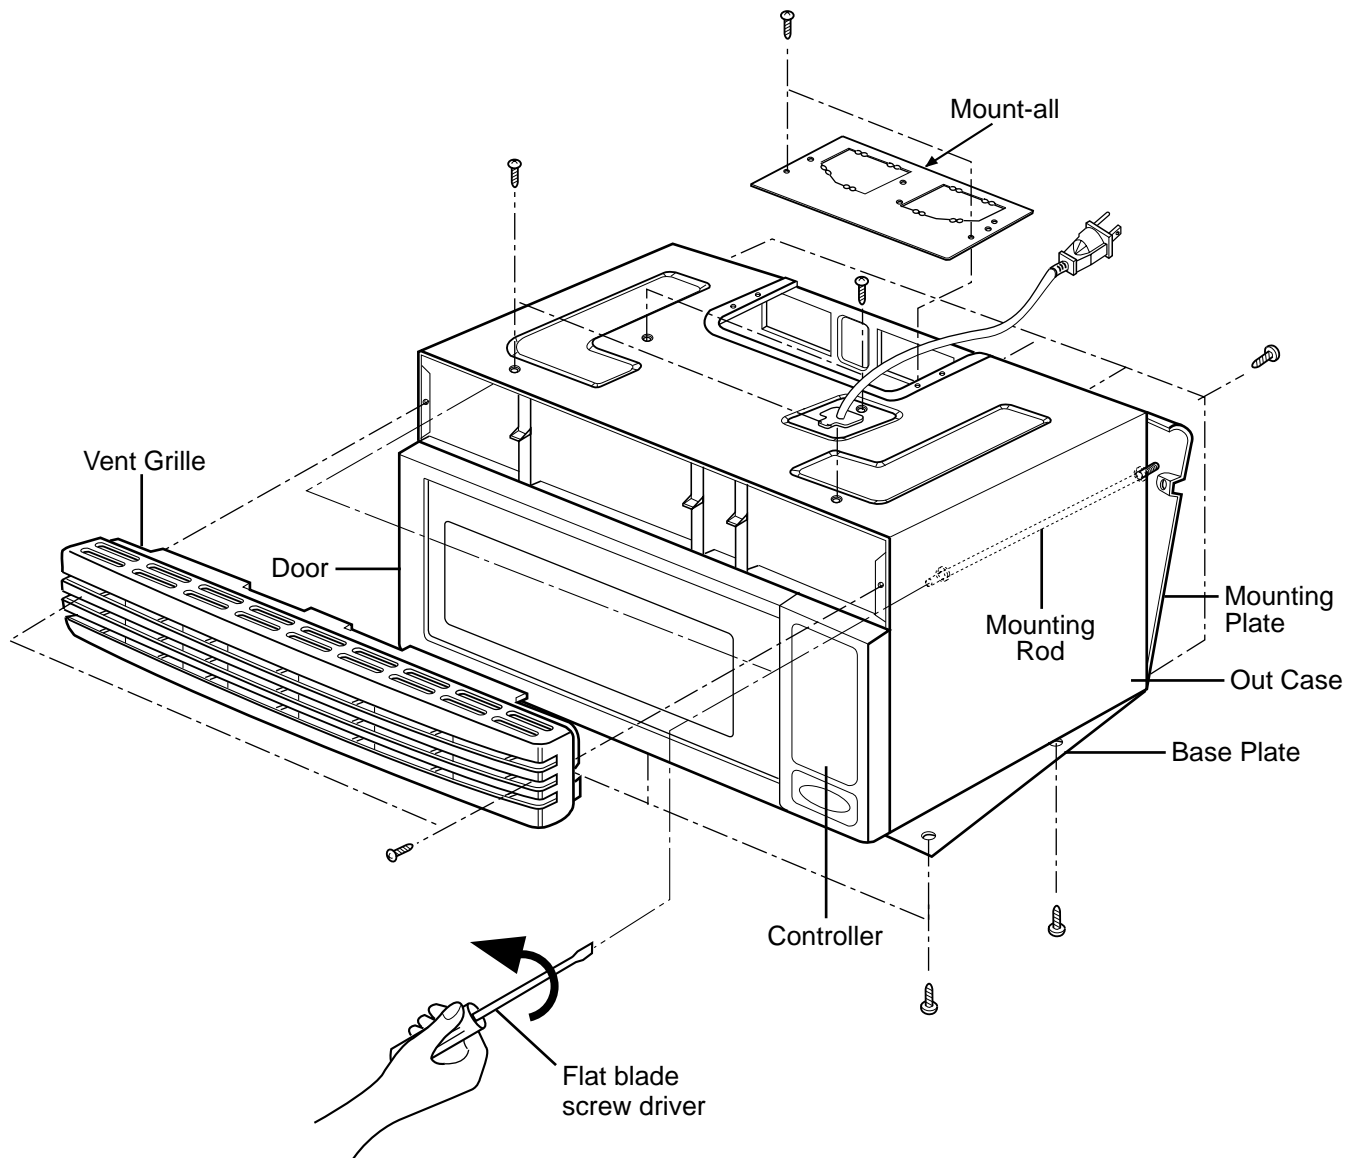

Figure 8
B. REMOVING THE OUT CASE(Figure 8)
- (1) Remove the vent grille by removing two screws securing it to the front of out case.
- (2) Remove four screws securing it to the air duct. (On the top plate of out case)
- (3) Remove the mounting plate by turning the two mounting rods securing itself.
- (4) Remove two screws securing them to the out case on the base plate. (Remove the mount-all from the out case by removing two screws securing it to the out case.)
- (5) Remove four screws securing them to the back plate.
- (6) Slap the both side of out case backward by 1~2 inches.
- (7) Disconnect the power cord connector from the noise filter and remove the earth screw.
- (8) Remove the out case with pushing it backward completely.